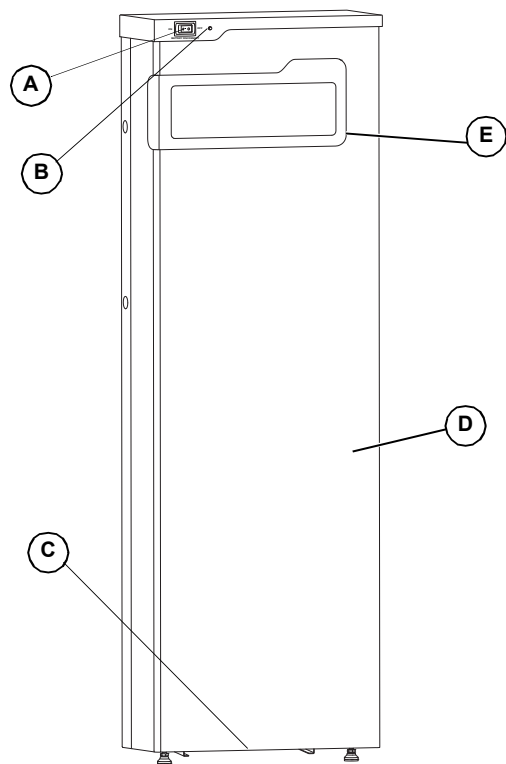

Figure 2-4. Component Locations
See Figure 2-4. Battery Disconnect Switch (A) disconnects the battery stack from the battery monitoring system (BMS) electronics.
See Figure 2-4. The color and strobing interval of LED (B) communicates battery status.